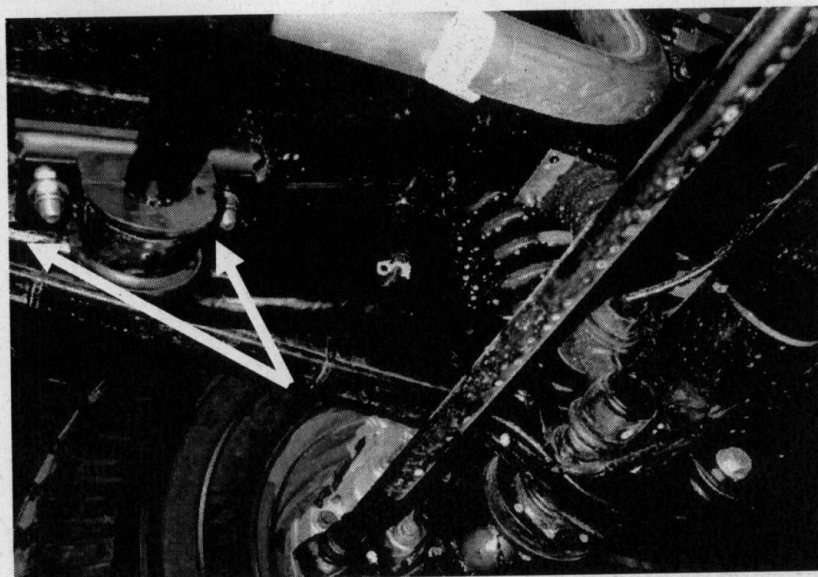

Fig 2.
- 9.5 Remove 2 X M10 nuts and washers from Anti Roll Bar bush brackets on each side, see fig 2. Remove both brackets.